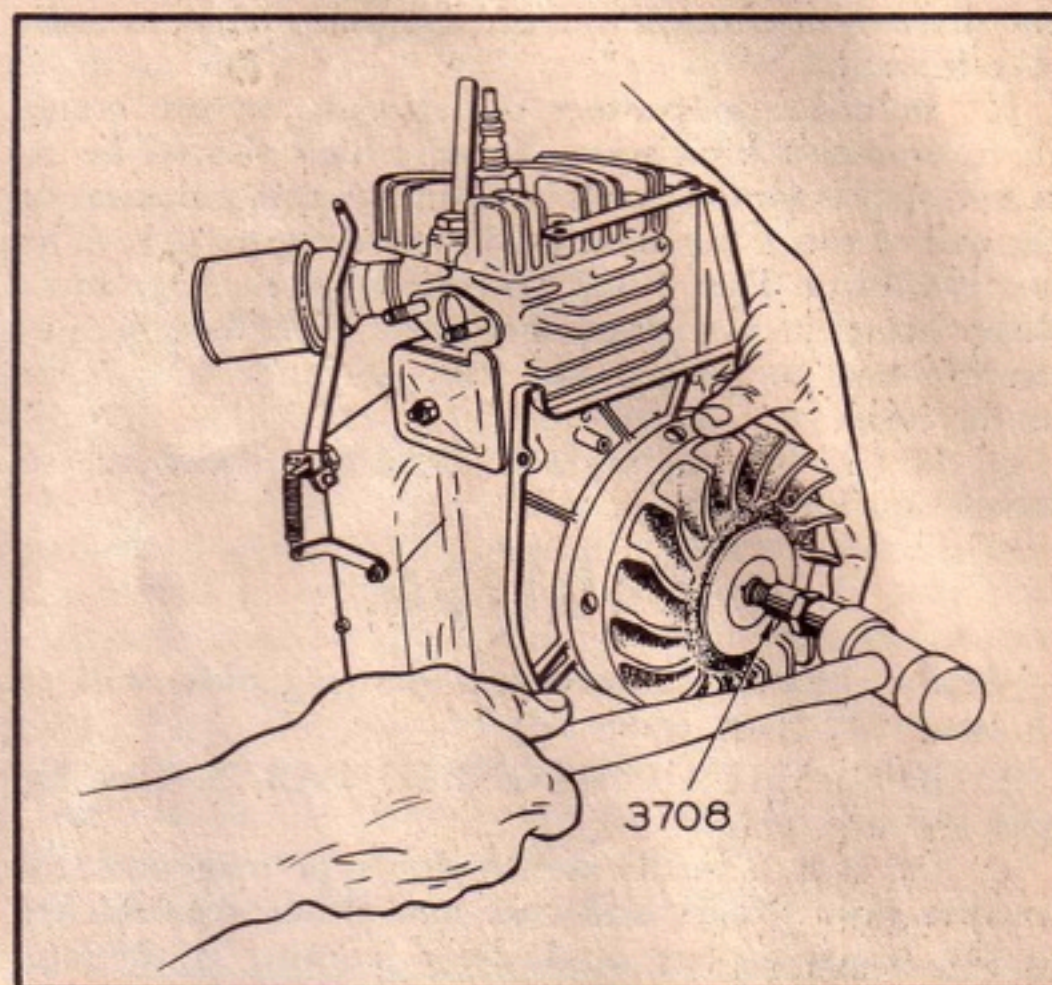

Figure C-1. Removing Flywheel
7. Remove the flywheel. (See figure C-1.)
1. REMOVAL OF FLYWHEEL. (See figure C-1.)
b. In order to protect the threads on the crankshaft, install a kick starter nut (which should be retained in the serviceman's tool kit for this purpose) on the end of the crankshaft, as shown in figure C-1. (This nut is Clinton Part No. 3708.) Strike the starter nut a sharp blow with a plastic hammer. This should cause the flywheel to jump away from the tapered portion of the shaft.